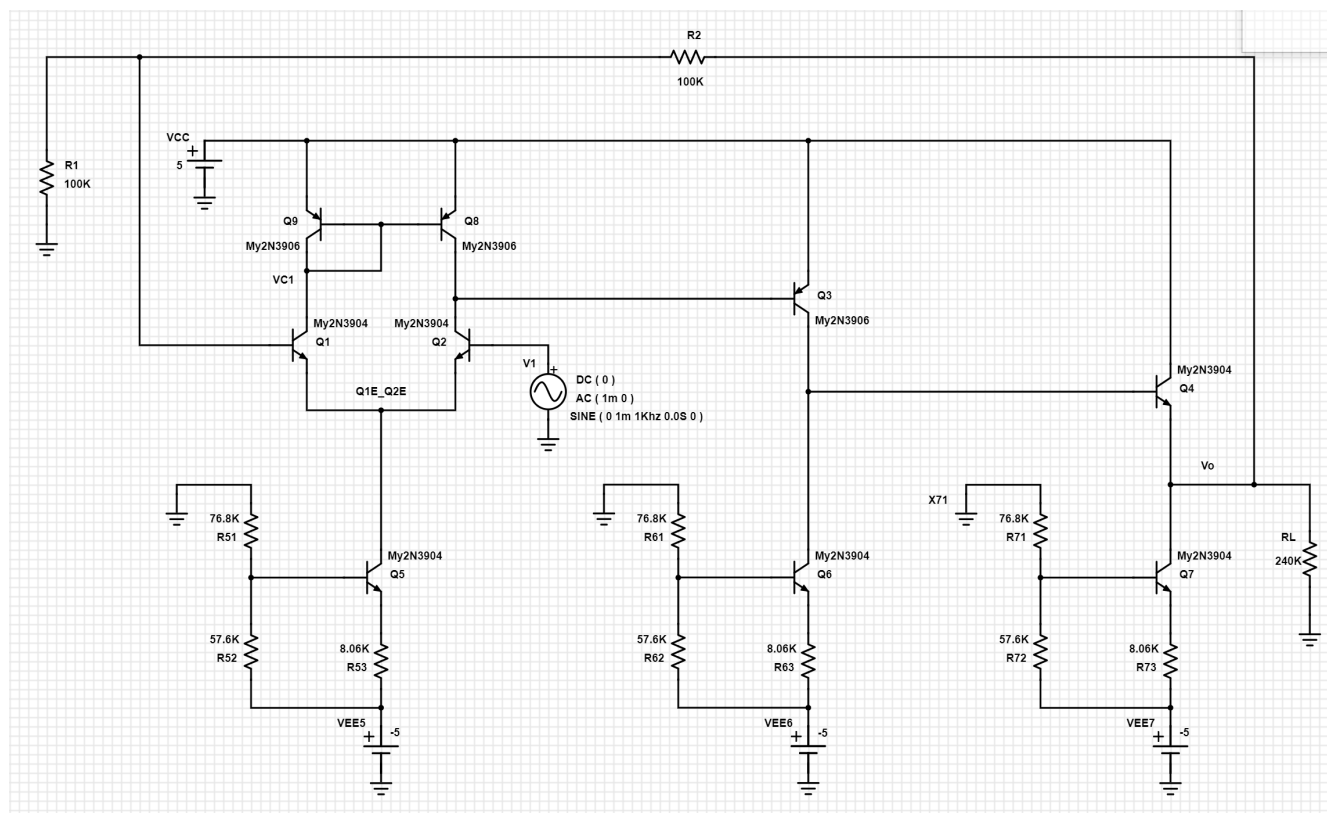
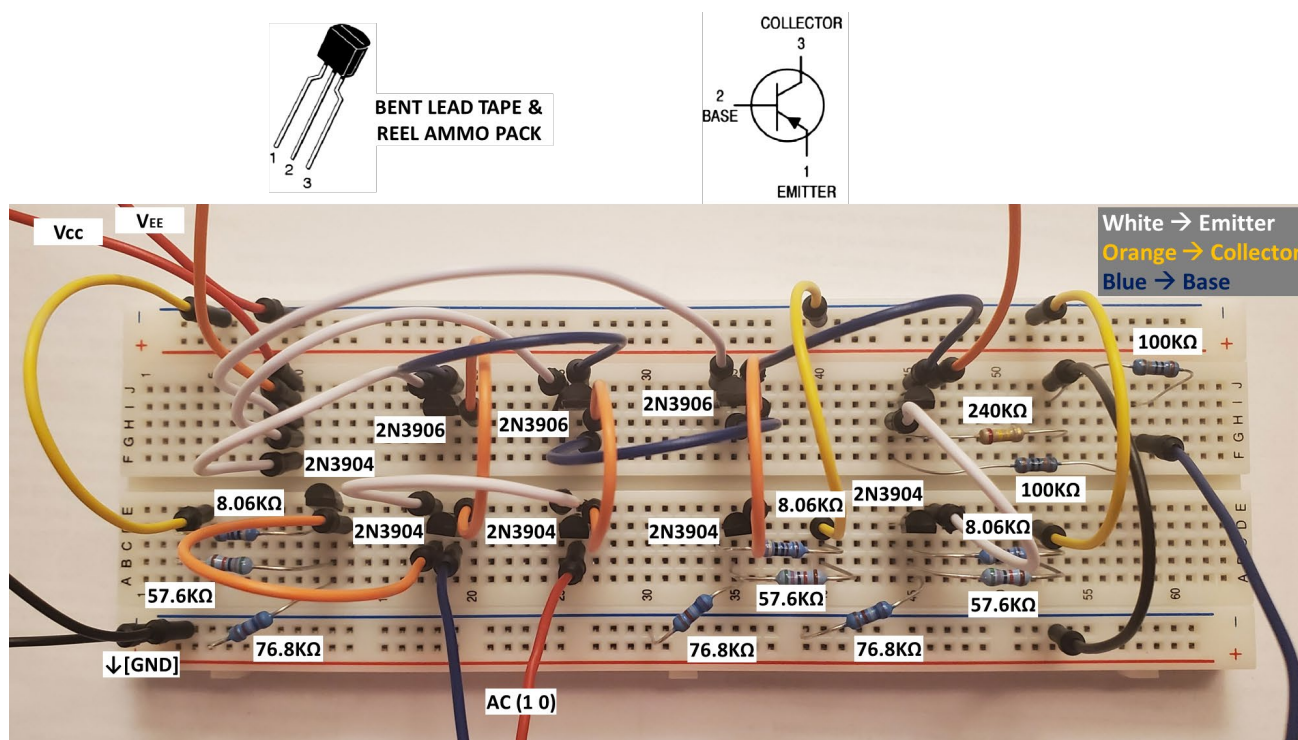

Fig. 2 Schematic diagram of the negative feedback amplifier
Fig. 4 Experimental setup for the negative feedback amplifier
- 1.4 In PartSim (or LTspice), construct the negative feedback amplifier using the circuit diagram as shown in Fig. 2, with resistance values and supply voltages specified in the figure.
- 1.12 Based on Fig. 2, construct the measurement setup, as shown in Fig. 4, for the feedback amplifier using the operational amplifier and the offset voltage for Channel 2 (W2) found in Step 1.11.
Q6. (5 Points) What kind of feedback configurations (e.g., shunt-shunt) is it for the amplifier in Fig. 2?